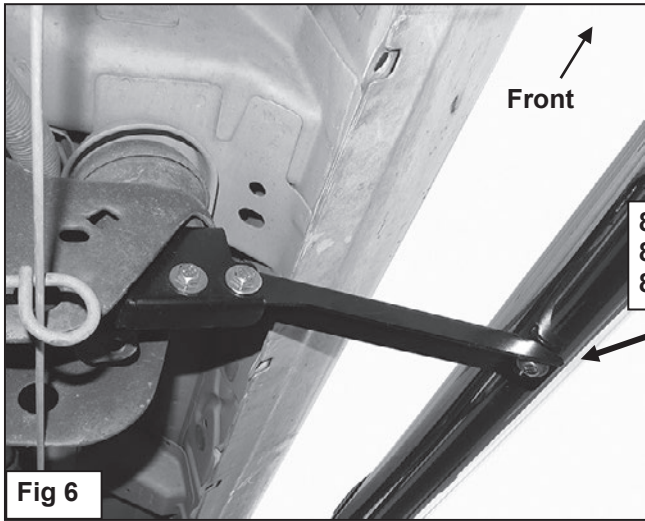

Fig 6
7. Attach the center Mounting Bracket to the Sidebar with the included (1) 8mm x 25mm Hex Bolt, (1) 8mm Lock Washer and (1) 8mm Flat Washer, (**Figure 6**). If the Bracket does not line up with the insert, it may be necessary to loosen the body bolt slightly to move the Bracket. Do not tighten the 8mm hardware at this time.